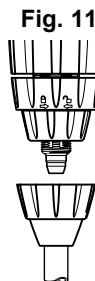

Fig. 11
- Unscrew the nut (Fig. 11) at the bottom of the injection assembly and put it onto the tube.